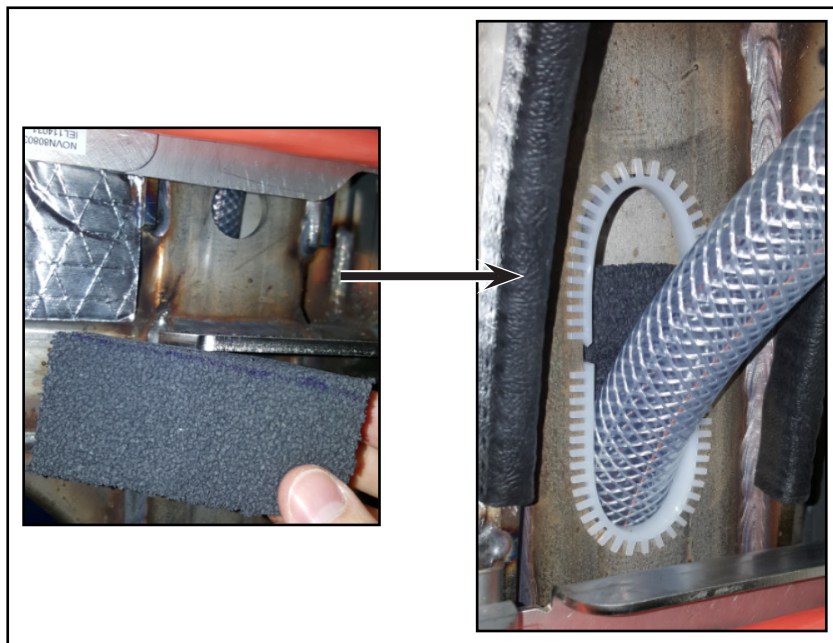

Figure 8 - Typical View of Smaller Foam Pieces to Block the Top Portion of the Structure
- 1.13. Use the smaller foam pieces to block the top portion of the structure cut-outs with an HVAC drain (see Figure 8).